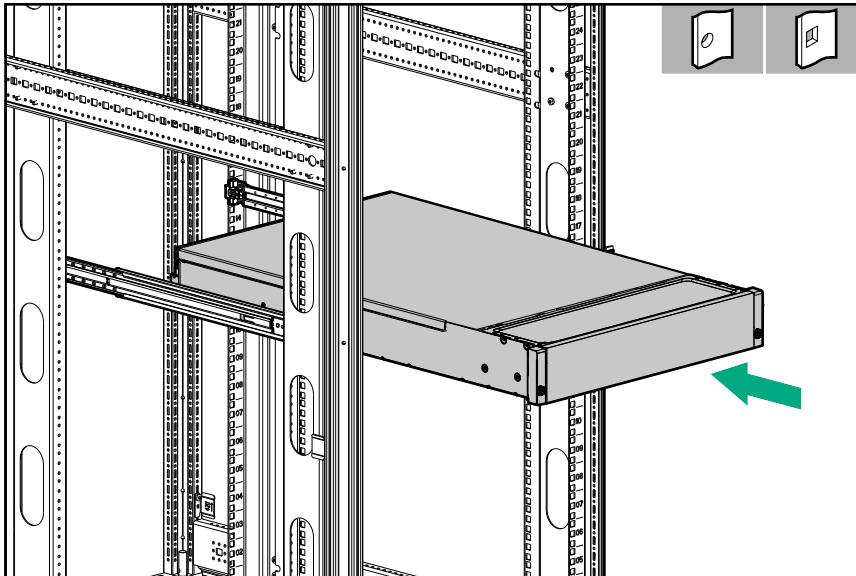

Figure 1: StoreEasy 1X60 insertion into the rack
2. Slide the StoreEasy 1X60 into the position on the rails as shown in Figure 1.